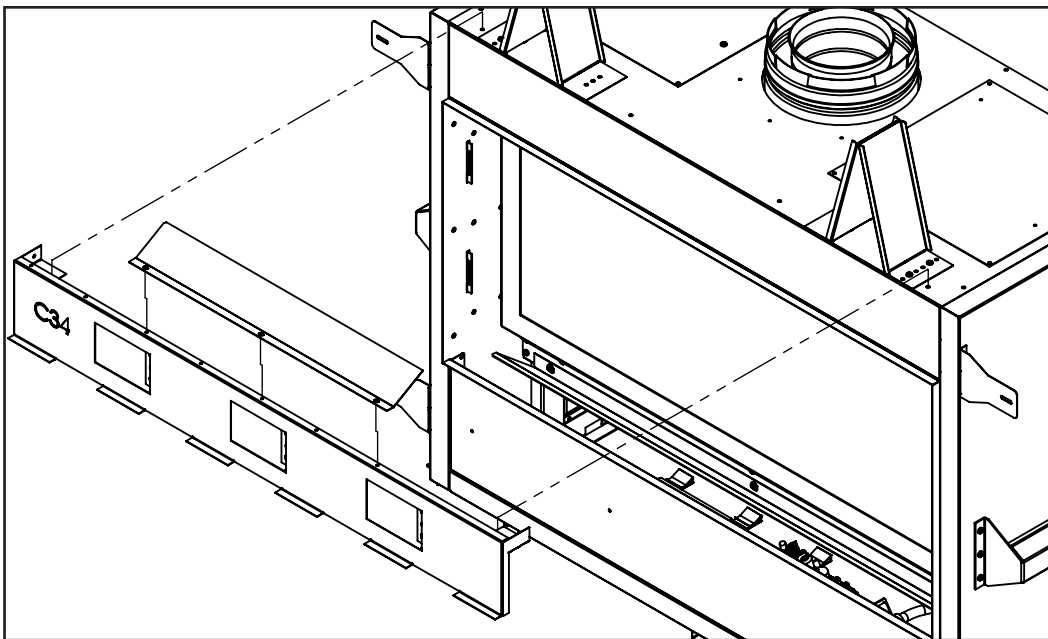

Figure 26. Combustible Panel C34
Step 8: Attach your deflector to your panel configuration as shown below (Figure 26, 27, 29)